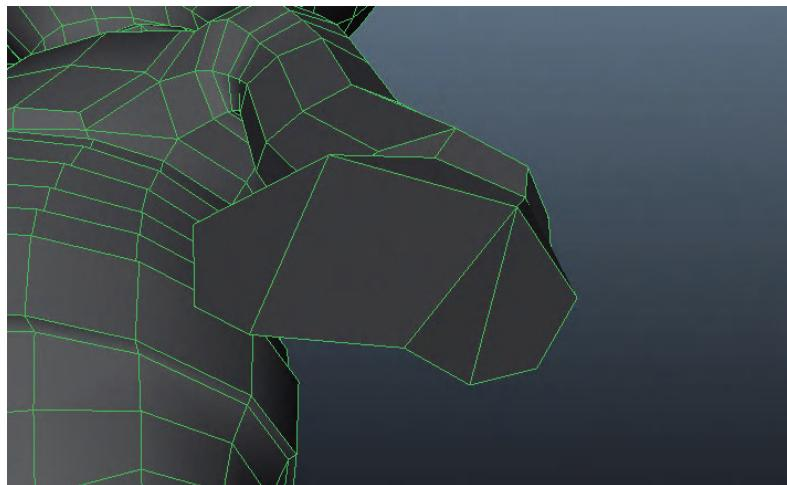

FIG 4.75 Creating the geometry needed for the fingers by closing off the ring of edges at the bottom of the arm.
Step 93: Close off the bottom of the arm. Do this with the Append to Polygon Tool. Match the topology as shown in Fig. 4.75.